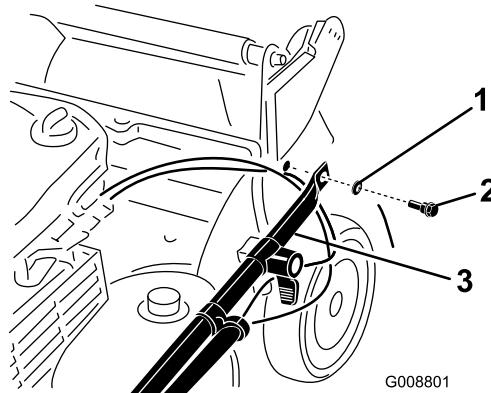

Figure 3
2. Attach the handle ends to the mower housing with 2 washers and 2 handle bolts (Figure 3), **but do not tighten the handle bolts.**
**Important:** Route the cables *under* the handle (Figure 3).